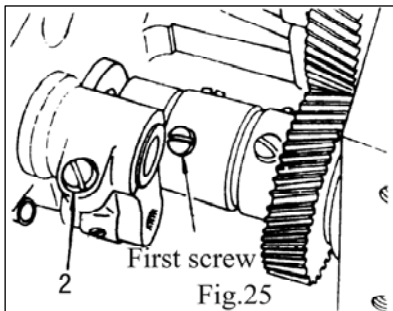

Fig.25
20. TIMING OF LOOPER GUARD (Fig.25)